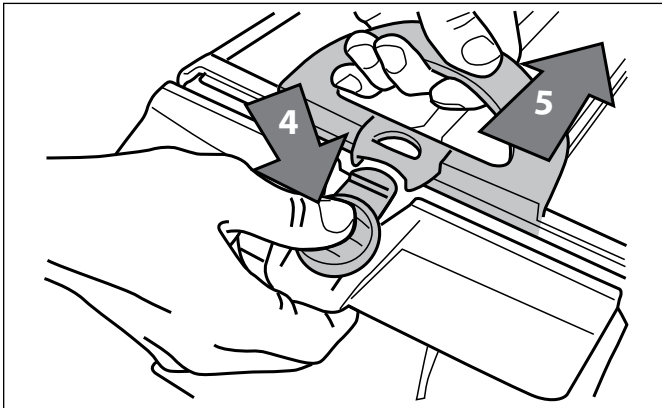

Figure 26. Open Filter Canister Assembly
7. Push the quick release button on the canister assembly (4) and pull open the filter assembly (5), as shown in Figure 26.